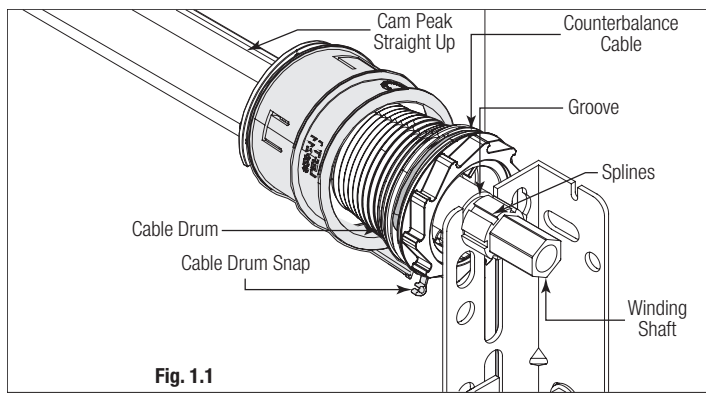

Fig. 1.1
**STEP 1:** Start with the right hand side, unlock the drum wraps from cable drums (if installed) by unlocking the cable drum snap. Pull the cable away from the snap (not to break it off) and then twisting the drum wrap while pulling it away from the drum and leaving it on the back end of the cable drum, as shown in Fig. 1.1.